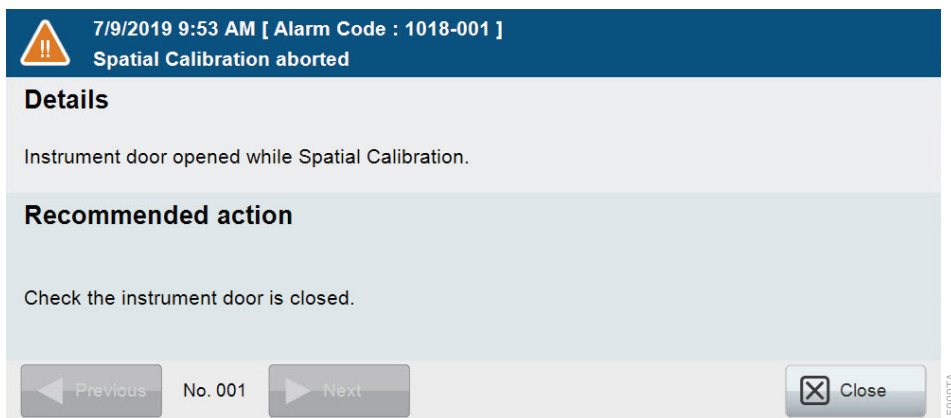

Figure 179. 'Alarm Detail' screen.
3. Select a specific Alarm in the list followed by **Details** to review the details of that specific alarm (Figure 179).
4. Check the information displayed in the Details and Recommended Action section of the 'Alarm Detail' screen (Figure 179). Perform corrective measures required to address the information displayed. See Section 11 for a list of error codes and responses.